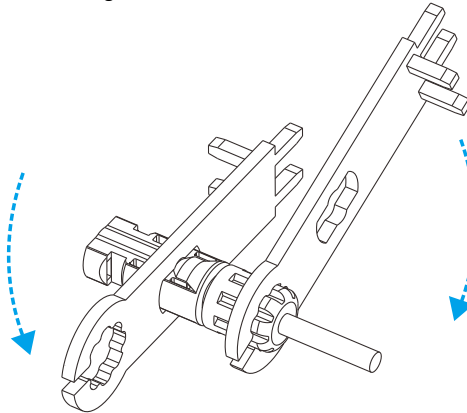

Figure 5.11 Tightening the nut on the connector
- Step 4 : Tighten nuts on the positive and negative connectors with 2 wrenches of the connector, as shown in Figure 5.11